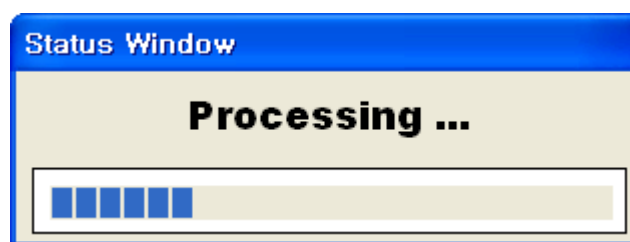

Figure 14. Firmware uploading window
- ④ When uploading is complete, a message box with “Complete Uploading” will be displayed as shown in Figure 14.